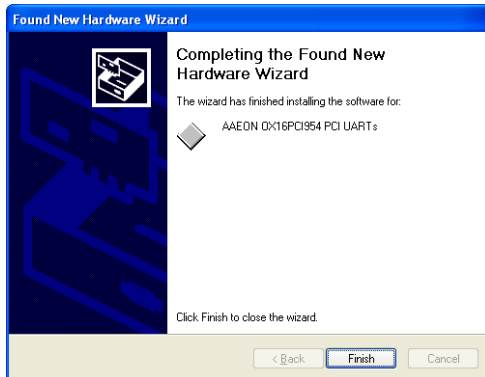

Figure 3
3. Windows has found an updated driver for this device as shown in figure 3. Click “Next.”
Appears as shown in figure 3, click “Finish.”